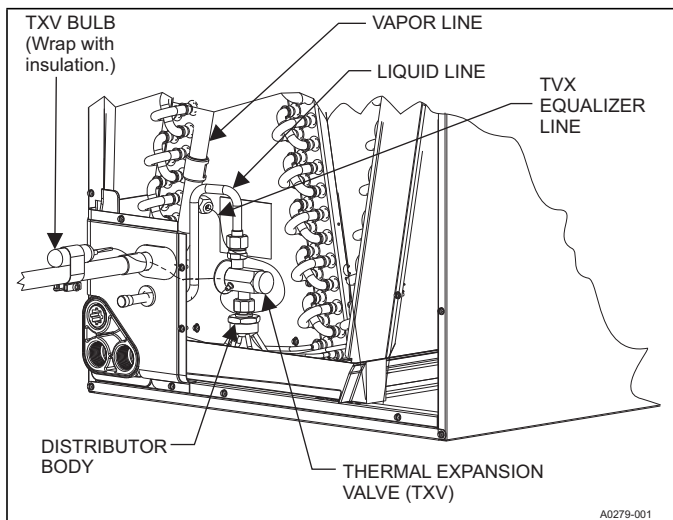

FIGURE 6: TXV Bulb and Equalizer Line Installations
6. Install the TXV equalizer line onto the vapor line by hand tightening the 1/4" SAE coupling nut to the equalizer fitting, and apply an additional 1/3 turn to seal. See Figure 6.
8. Install the TXV bulb to the vapor line near the cabinet, using the bulb clamp(s) furnished with the TXV assembly. Ensure the bulb is making maximum contact. See Figures 6 and 7.